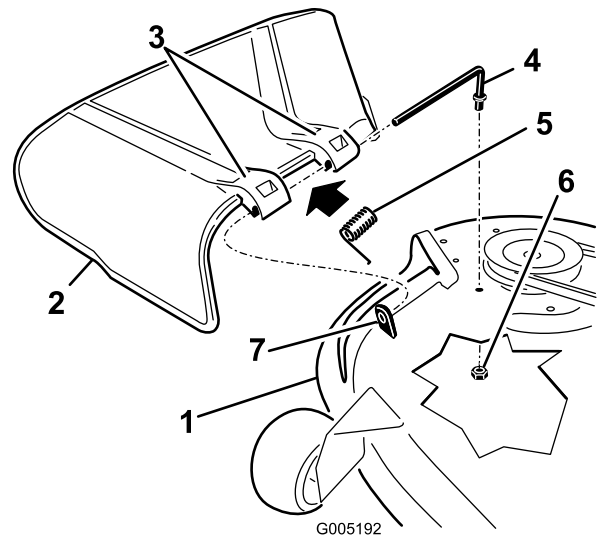

Figure 74
1. Remove the nut (3/8 inch) from the rod under the mower (Figure 74).
2. Slide the rod out of the short standoff, the spring, and the grass deflector (Figure 74).
4. Replace the grass deflector (Figure 74).
7. Slide rod through the second grass-deflector bracket (Figure 74).
9. Secure the rear end of the rod into the mower with a nut (3/8 inch) as shown in Figure 74.